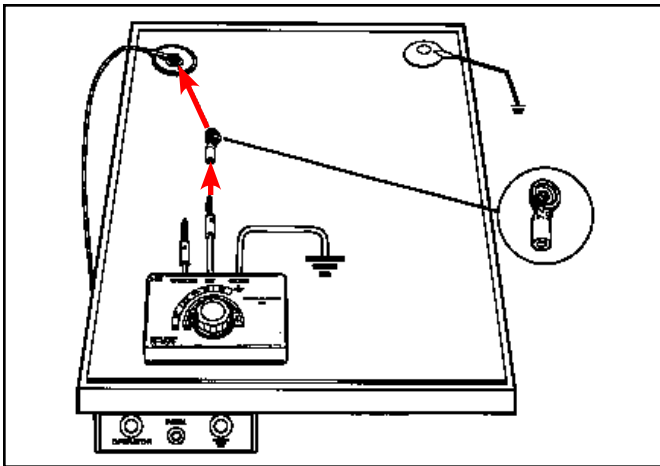

Figure 5. Connecting the MAT test lead from the Monitor Calibration Unit to the satellite remote
Step 2: Connect the included stacking snap to the banana plug labeled "MAT" on the Calibration Unit. Disconnect the satellite remote from its mat connection and re-install it to the Calibration Unit's stacking snap (see Figure 5).